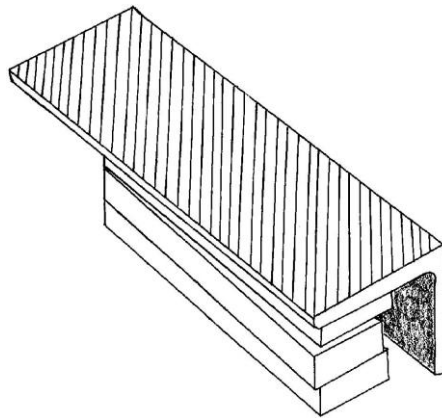

Figure 1: SPECIMEN
1. Inspect sensor location on specimen for deep pitting and correct gage location. (Figure 1)